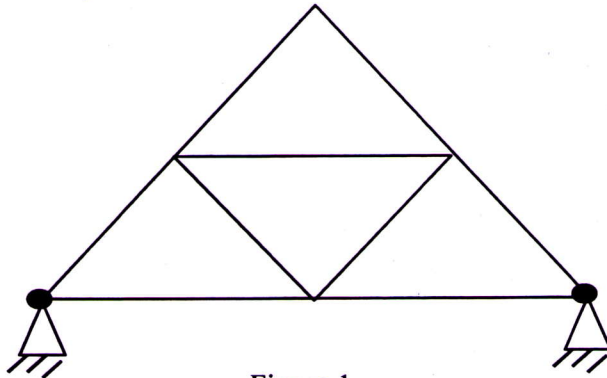

Figure 1
| 3 | Find the degree of redundancy (SI) for the structure shown in figure 1. | 3 |